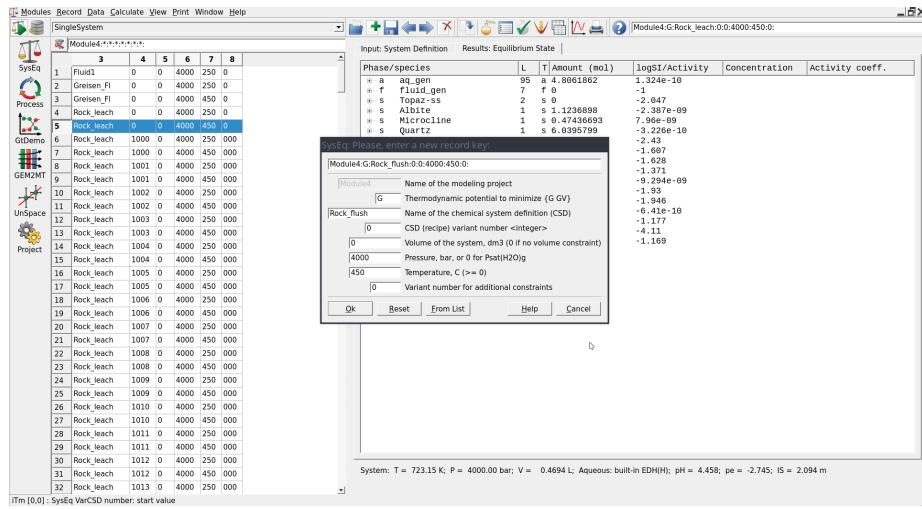

Figure 4.14: To set up a single-pass flushing model we need to create a parent chemical equilibrium system in SysEq by cloning an existing record.
- Create the parent system records in **SysEq** by cloning the **Rock\leach** model created earlier at 450 °C and 4 kbar. Rename this system records to "Rock\flush", and leave all the other parameters (Fig. 4.14).